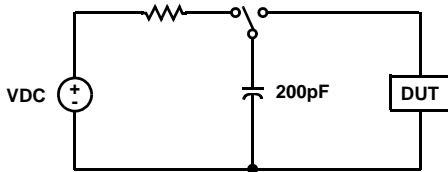

FIGURE 2.
The next, Machine Model (MM), is similar to the HBM. The MM charges a 200pF capacitor in increasing voltages in steps of 100V and then discharges the capacitor directly into the device pin. This model simulates a worst case HBM or that of a charged metallic object contacting a device pin. (Figure 2) Specifications that apply to the MM are ESD Association Standard EOS/ESD-DS5.2-1992 and JEDEC's Test method A115A and EIAJ's IC-121-1988 test Method 20.